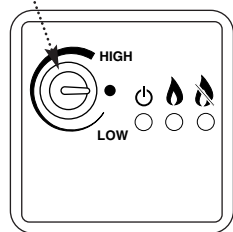

Fig. 2
3. Set the boiler thermostat control knob to the required setting (Fig. 2). (The optimum boiler setting depends upon type of system, external controls and your requirements. Your installer will be able to advise you on this matter.)
2. Turn the boiler thermostat control knob to OFF "●" (Fig. 2), then turn off the gas supply at the appliance gas tap.